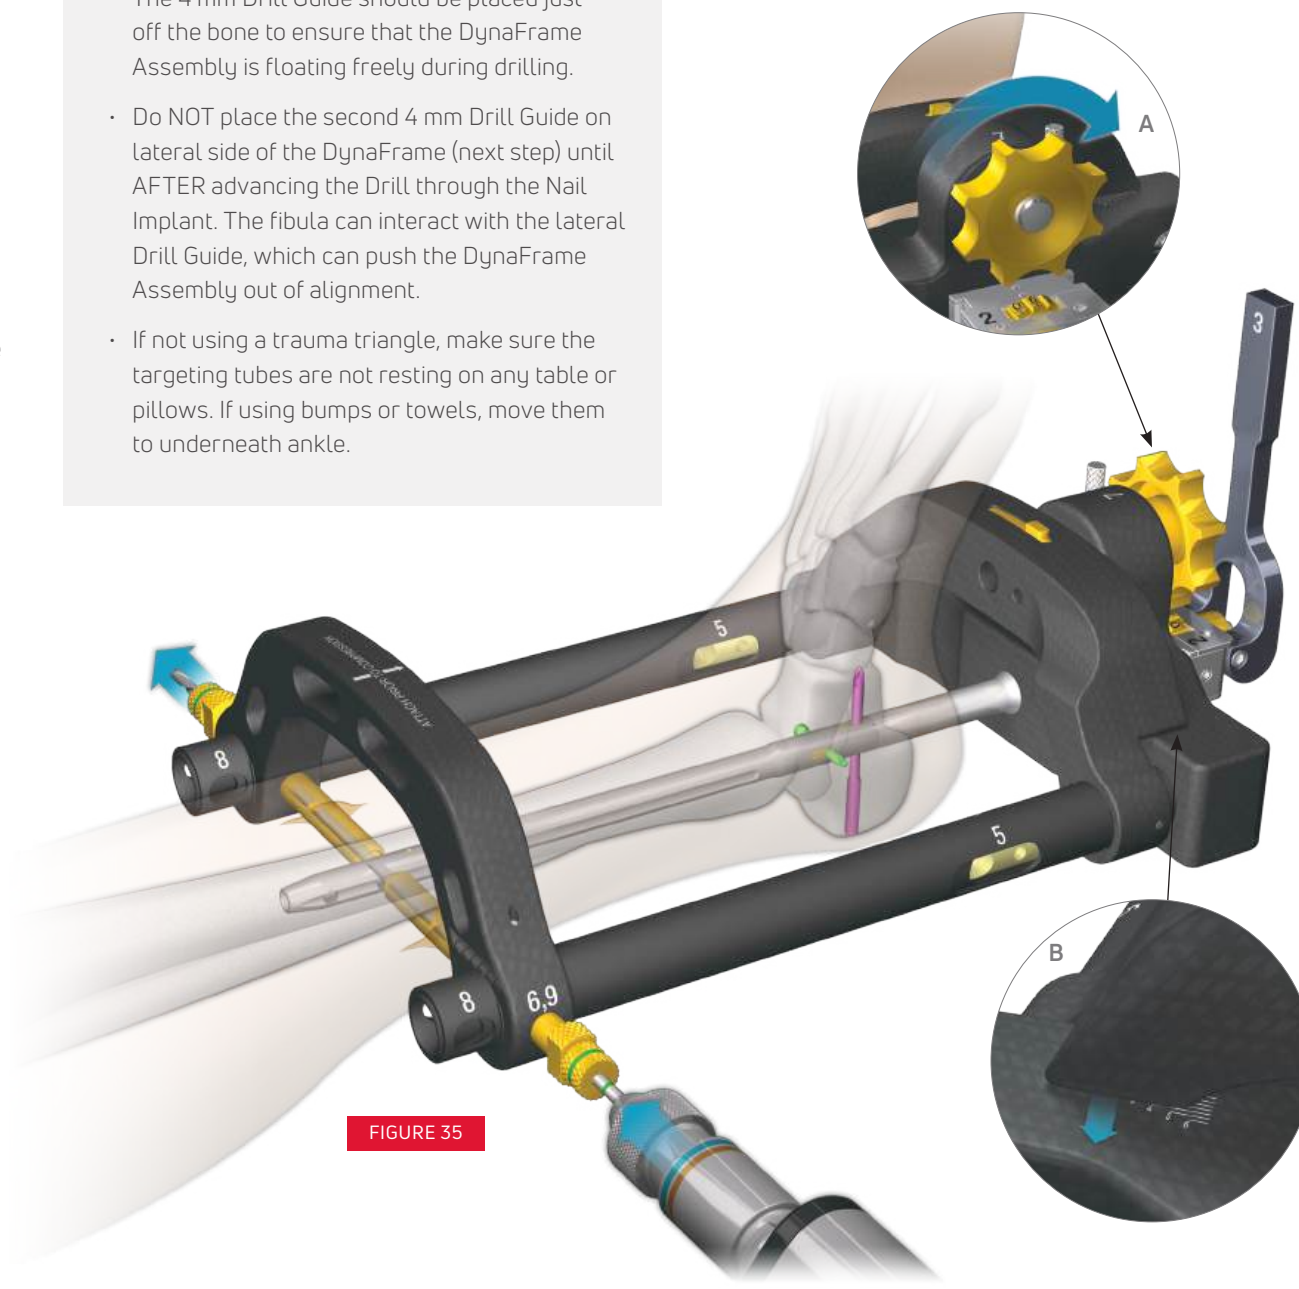

FIGURE 35
Drilling from the medial side, pass a fresh 4 mm Drill through the tibia and across the DynaFrame Assembly. Thread another 4 mm Drill Guide into a second 8 mm Guide Sleeve and insert the Guide assembly into the distal hole on the lateral side of the DynaFrame Assembly so that it abuts against the bone. Continue to insert the 4 mm Drill into the Drill Guide on the lateral side (FIGURE 35). Leave the drill in place and rotate the Manual Compression Knob clockwise to apply compression across the joint (A). The approximate amount of applied manual compression can be determined by reading the lasermarks on the DynaFrame Assembly (B). Leave the Drill in place while proceeding to Step 14B.